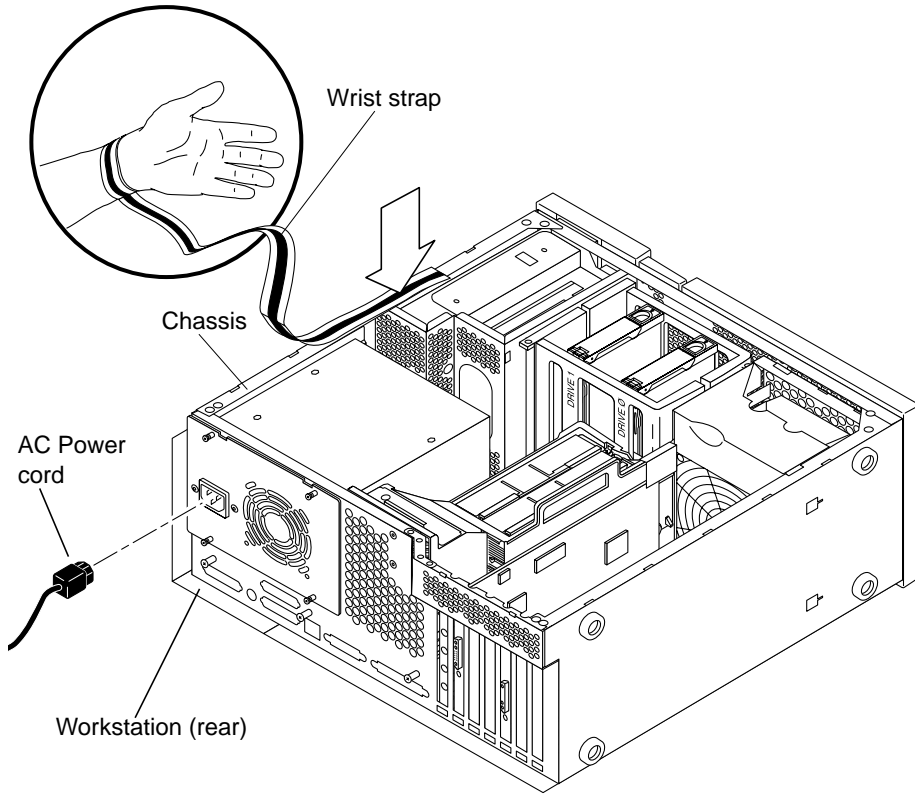

FIGURE 4 Attaching the Wrist Strap to the Chassis
7. Disconnect the power cord (FIGURE 4).
3. **Attach the copper end of the wrist strap to the chassis (FIGURE 4).**
4. **Connect the AC power cord for the workstation (FIGURE 4).**